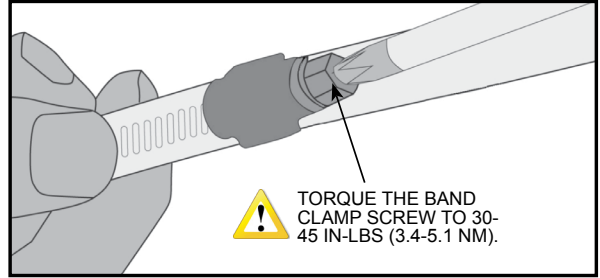

Figure 6: Band clamp screw torque
8. Torque the band clamp screw to 30-45 in-lbs (3.4-5.1 Nm). See Figure 6.